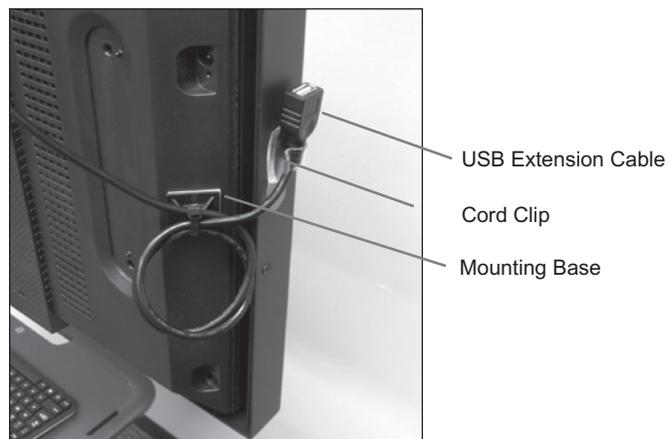

Figure 9: USB Extension Cable
2. Attach one of the Cord Clips to the right side of the Touchscreen bezel about six inches from the bottom of the Touchscreen Monitor. See Figure 9.